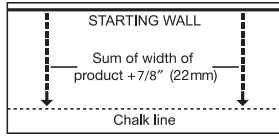

Figure 7
- In at least two places at least 18" (46 cm) from the corner, measure out equal distance from the starting wall (Figure 7) and snap a chalk line. The measurement must be the sum of the width of the flooring plus an additional 7/8" (22 mm) to allow for 3/4" (19 mm) expansion space and the width of the tongue. Continue to Step 3 Glue-Down Installations.